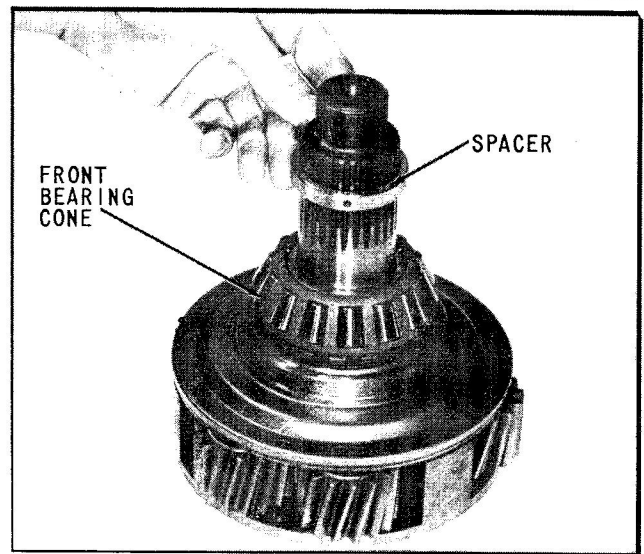

Fig. 70 Install Bearing and Spacer (3 to 1 Ratio)
3. Install front bearing cone and spacer over output shaft and against bearing, (Fig. 70).